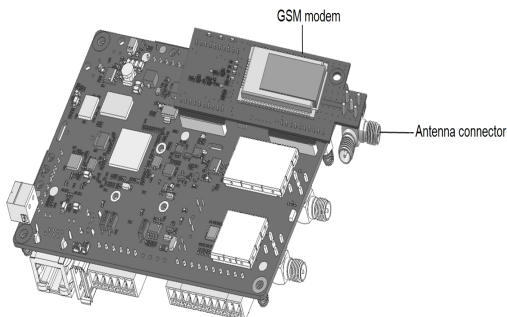

Figure 7: Installed Plug-in and antenna connector
8. Pull the excess cable into the inverter so that the cable can be attached to the inverter communication board (see *Figure 7*). The cable connects to the GSM Plug-in Wi-FiZigBeeZigBee Plug-in as described in the next section.
1. Locate the Plug-in in its place on the communication board, as shown in *Figure 7*.
2. Connect the antenna cable to the cellular Plug-in and tighten manually (as shown in *Figure 7*).